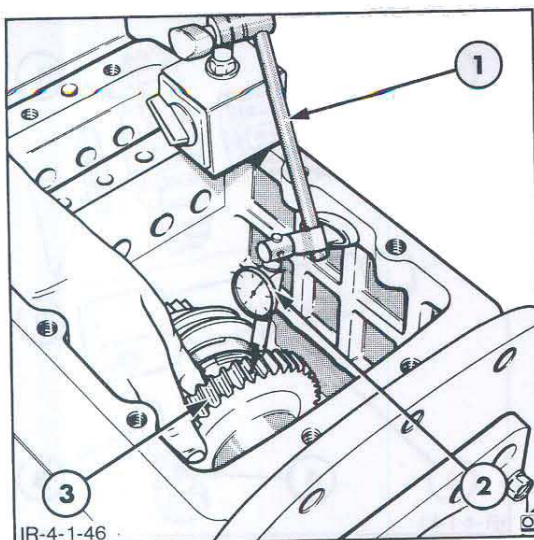

Figure 47
1. If transmission gear wear is suspected then prior to removing the rear cover and output shaft bearing retainer check the gear backlash. Position a dial indicator gauge on the transmission casing as shown in Figure 47 and measure the backlash on output shaft gears.